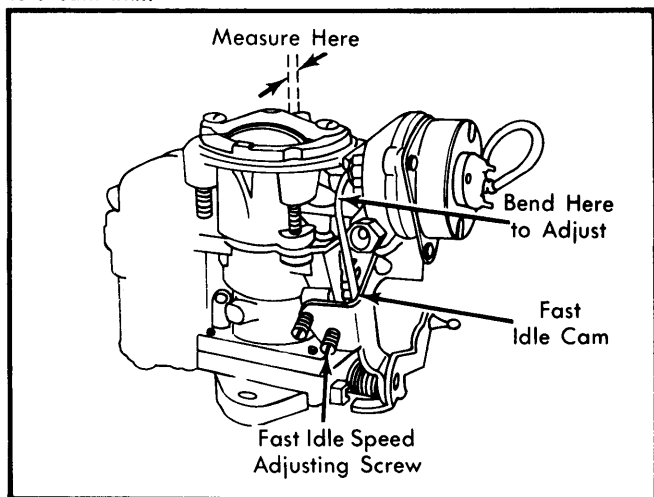

Fig. 7 Fast Idle Cam Index Adjustment
- 1) Place fast idle speed screw on kickdown step of fast idle cam, against shoulder of highest step. See Fig. 7.